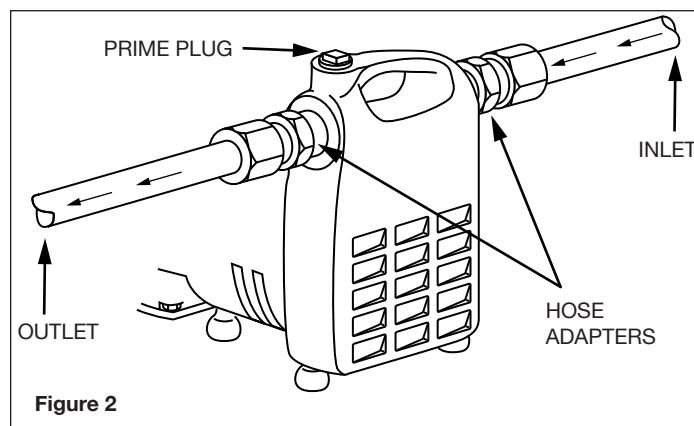

Figure 2
4. Figure 2 shows a typical installation. Threaded adapters are furnished for attaching garden hose where conditions permit its use. In no case should the pump be more than 15 feet above or away from water source. Install a foot valve when suction lift is over 10 feet or when suction line is over 10 feet long.